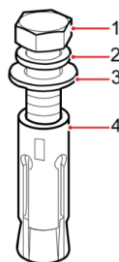

Figure 2-11 Expansion bolts
- 3) Use a hammer drill to drill holes in the mounting hole marks, and then install the 10 M10 expansion bolts into the holes. Figure 2-11 shows an expansion bolt.
The installation position of power module is shown in Figure 2-11. Please install the power modules from bottom to top to prevent inclination of the cabinet due to high center of gravity. The steps of installing power module are as follows (take the 10-slot cabinet as example):